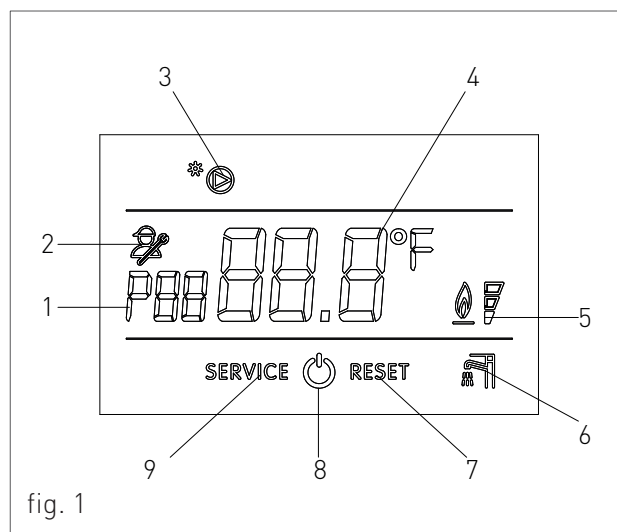

fig. 1
1. INDICATION OF PARAMETER NUMBER / DISPLAYED INFO CODE / RECIRCULATION MODE ACTIVE (fig.1)